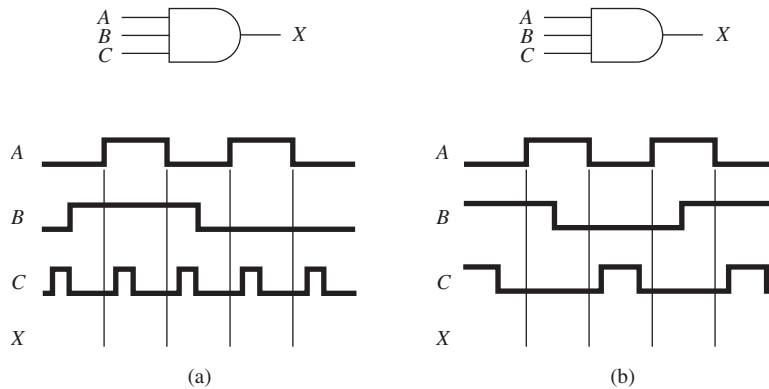

Figure P9
9. Sketch the output waveform at X for the three-input AND gates shown in Figure P9.